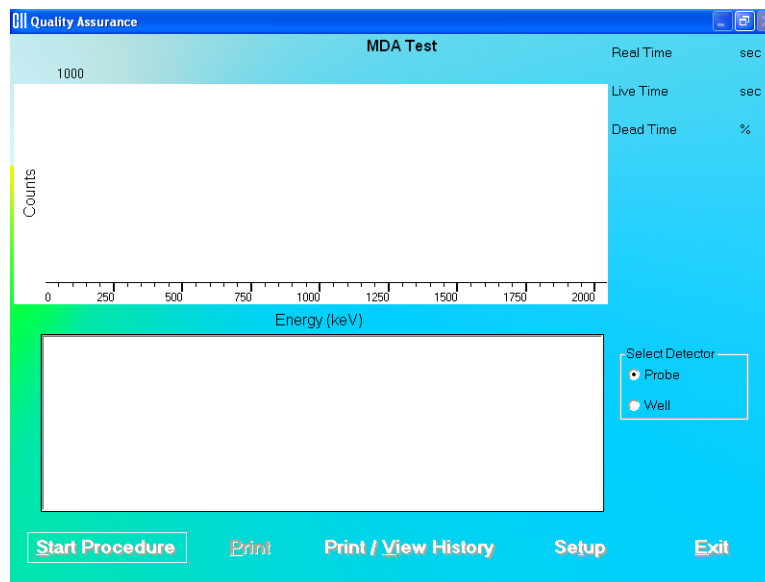
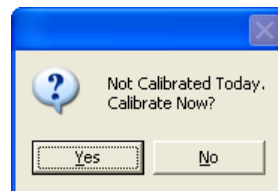

Figure 5-22 MDA Test Screen
Figure 5-25
1. Click the **MDA Test** button or press *Alt+M* on Figure 5-1 Quality Assurance Main Screen. Figure 5-22 MDA Test Screen will appear.
7. Click the **Done** button or press *Alt+D* to save the added information or click the **Cancel** button or press *Alt+C* to cancel the changes and return to Figure 5-22 MDA Test Screen.
Note: If calibration has not been performed using the selected detector, you will be prompted with the screen as shown in Figure 5-25. After the calibration is complete, the program will return to Figure 5-22 MDA Test Screen.